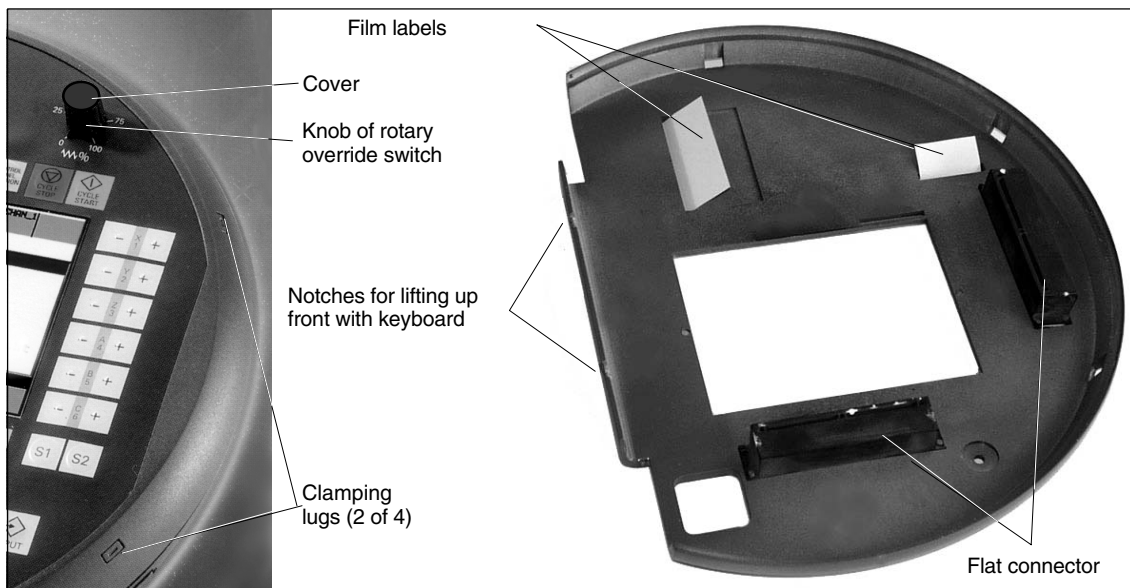

Fig. 33-18 Changing the slide-in labels
The labeling strips can be replaced after the HT 6 front with keyboard has been disassembled (Fig. 33-18, right).
1. Deinstall knob for rotary override switch in the zero position (Fig. 33-18, left):
2. Depress the four clamping lugs and lever off the front with keyboard by inserting e.g. a screwdriver in the grooves in the handhold (Fig. 33-18, right).